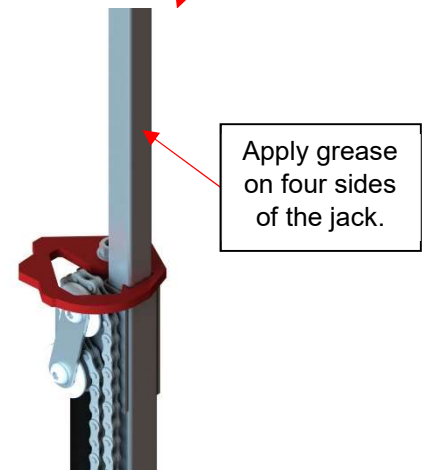

Figure 22
7) Spray grease on all the sliding parts and mechanical components for all four jacks. (Figure 22)